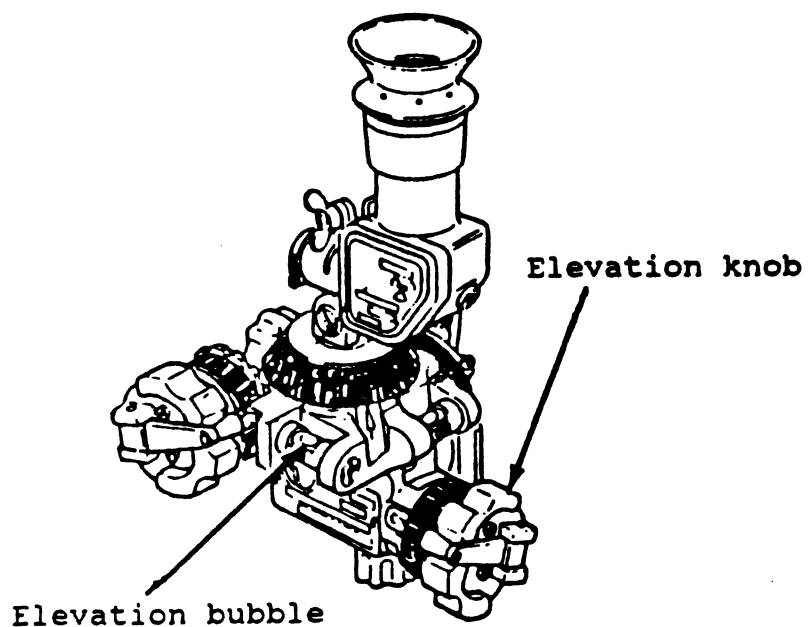

Fig 2-9. Elevation knob and elevation bubble.
d. Rotate the elevation knob on the sight until the elevation bubble is centered (fig 2-9). If necessary, level the crosslevel bubble.